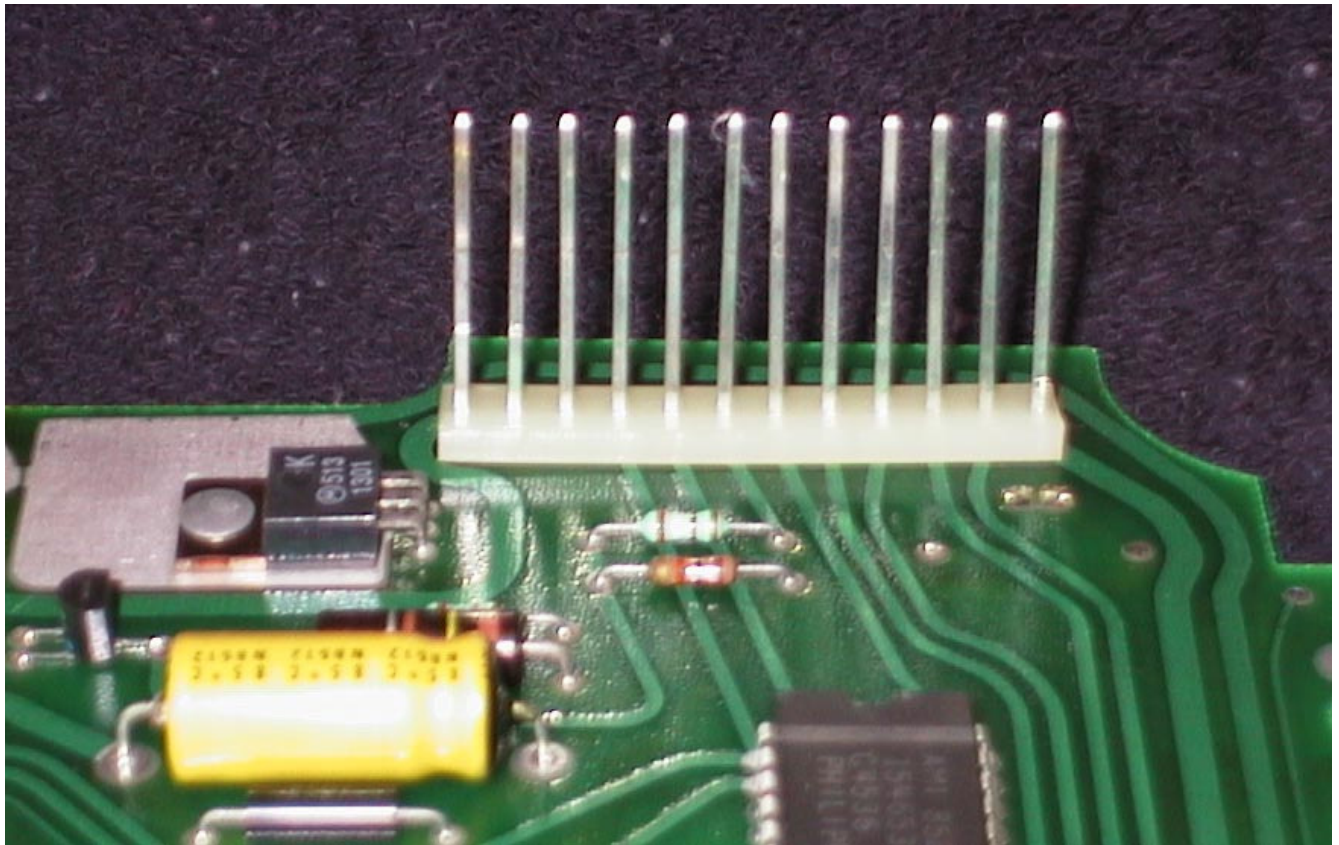

Figure 4 - Board Interconnector (front view)
4. On the bottom circuit board (the one you took out last) resolder the joints on the connector that connects the two circuit boards. See Figure 4 and 5.
5. Resolder the joints on the other large components that appear in Figure 4 - The capacitor (big yellow thing), the brown resistor, and the voltage regulator (black thing with three leads) are all susceptible to broken solder joints due to the fact that they support large components or high current carrying ones.